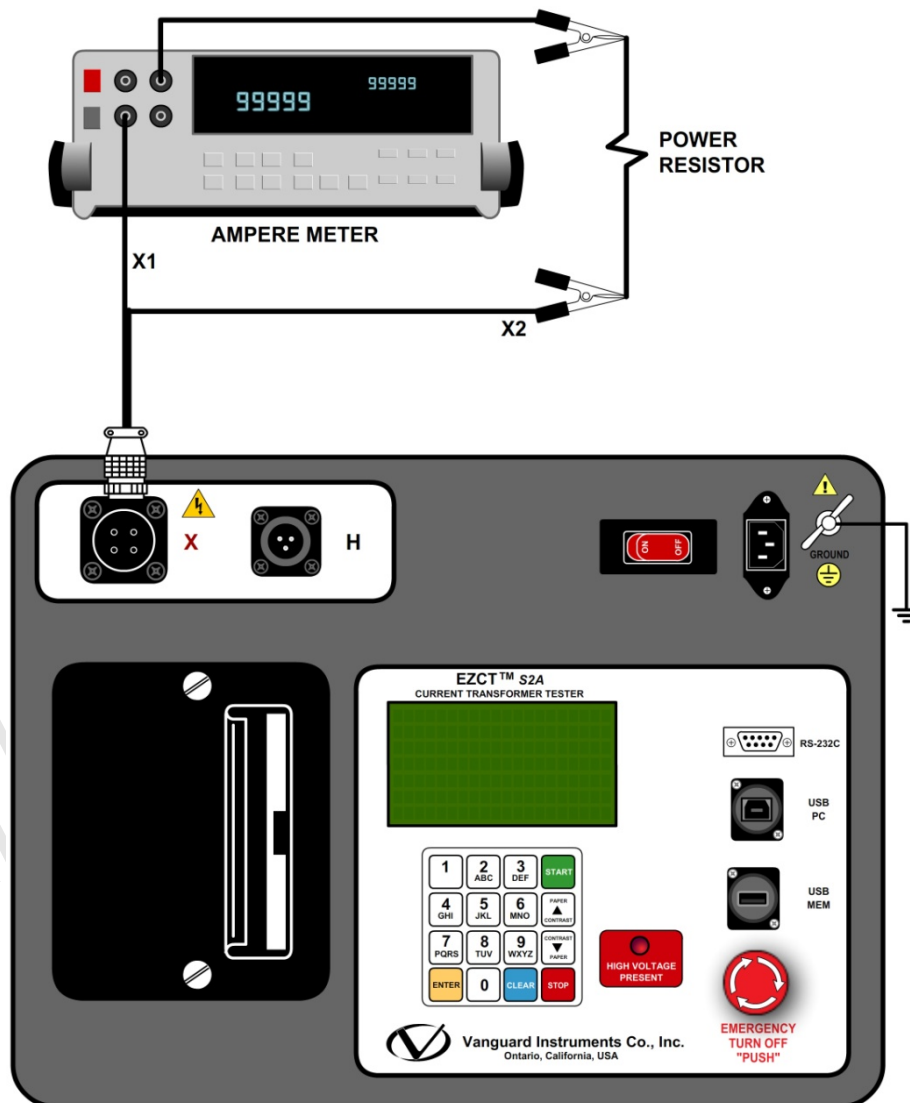

Figure 16. EZCT S2A  $I_x$  Verification Test Connections
- Connect the X cables to a power resistor and an RMS amperemeter as shown in Figure 16.